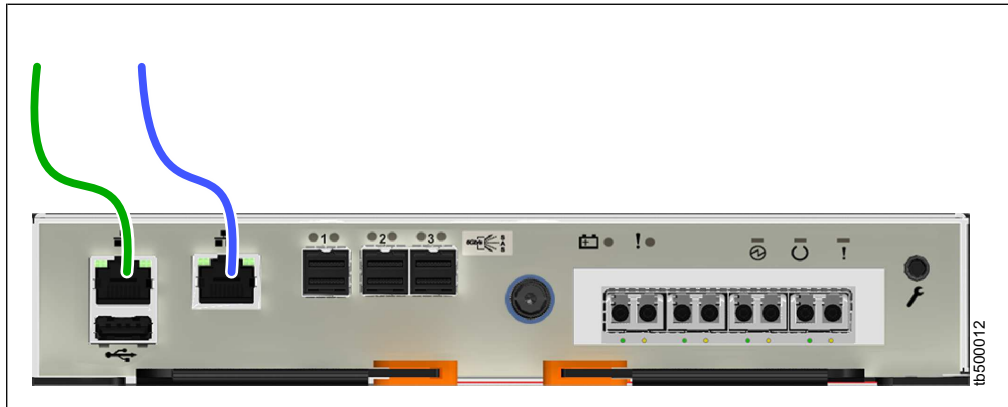

Figure 125. Connecting the Ethernet cables to a Storwize V5020 system
- a. Identify the location and function of the Ethernet ports on your system; refer to Figure 124 and Figure 125 on page 144.
Figure 125 on page 144 shows the Ethernet cabling and the ports on the back of a Storwize V5020 system.
- c. Optionally, connect Ethernet port 2 of each node canister in the system to a second IP network, as shown by the blue cable connection in Figure 124 on page 143 and Figure 125. This second port can be used to provide a redundant connection to the system management interfaces; it can also be used for iSCSI connectivity to the system by hosts on the network.